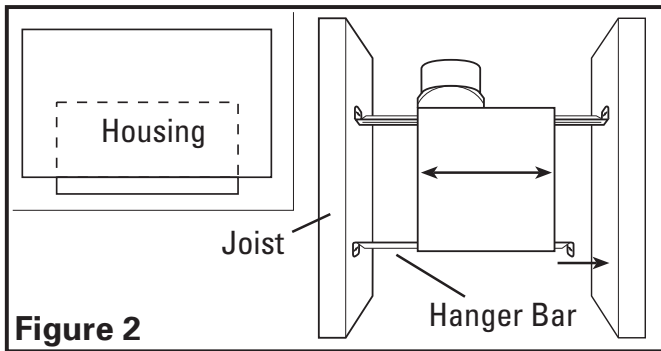
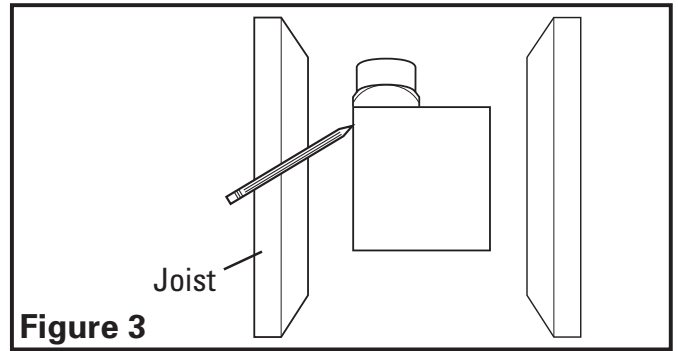

Figure 2
Figure 3
1. Install the side rails on the housing and position the housing next to the joist. Line up housing so that it will be flush with the finished ceiling. Secure the ends of the rails with screws or nails (not included) to the joists and slide the housing into the final position (Figure 2).
1. Set housing in position between the joist and trace an outline onto the ceiling material (Figure 3). Set housing aside and cut opening, being careful not to cut or damage any electrical or other hidden utilities. Install the side rails on the housing and position the housing in the previously cut hole so that it is flush with the finished ceiling. Secure the ends of the rails to the joists (Figure 2).